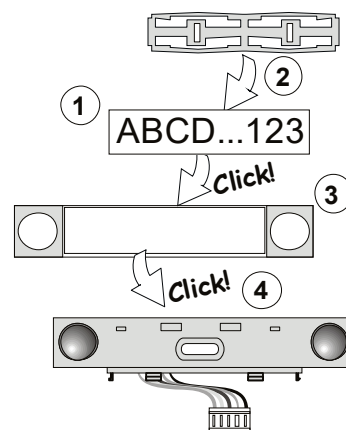

Figure 3: Insertion of a label into a control segment
- Connect the segment wires to the internal connector of the module (7).
- When batteries are inserted, the yellow backlit activation button (3) starts to light permanently which indicates that the module has not been enrolled to the system yet.
- Press the backlit activation button (3) – the module is thus enrolled and the yellow LED indicator goes off (this can take a few sec). An enrolment signal can also be sent by inserting the batteries.
- When you have completed installation, insert descriptive labels behind the segment transparent covers and close them, see figure 3. Label printing is a part of the F-Link software (**Devices** window, at the module position – **Internal settings**).